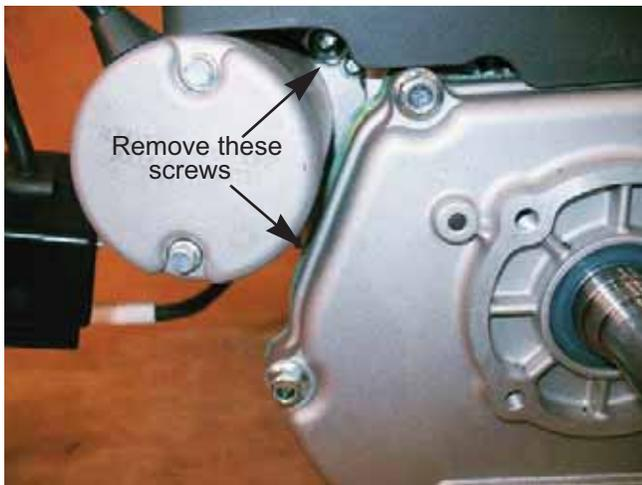

Figure 6.12
3. Remove the starter by removing the two screws that hold it to the engine block using a 10mm socket and a long extension. See Figure 6.12.